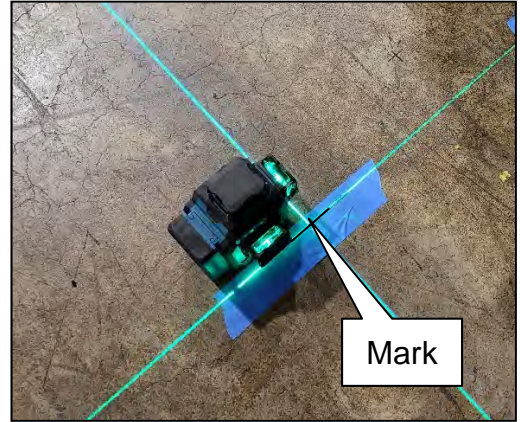

Figure 29
25. Place a mark on the floor below the laser line (Figure 29).